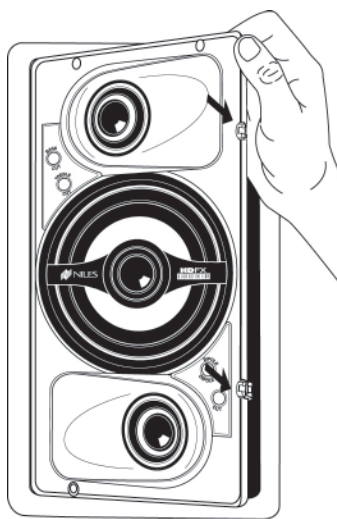

Figure 16. Installing the loudspeaker baffle into its frame.
4. Install the loudspeaker baffle into its frame by inserting the tabs at the base into the corresponding holes in the frame and pushing the loudspeaker forward until the snaps engage, as shown in **Figure 16**.